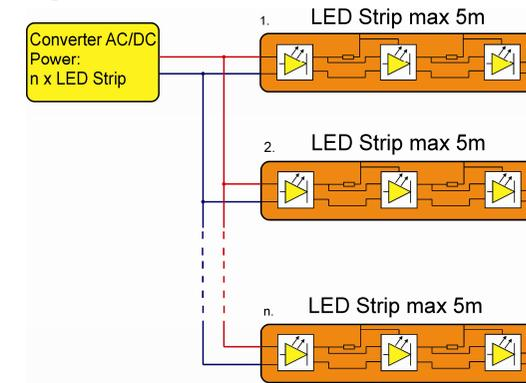
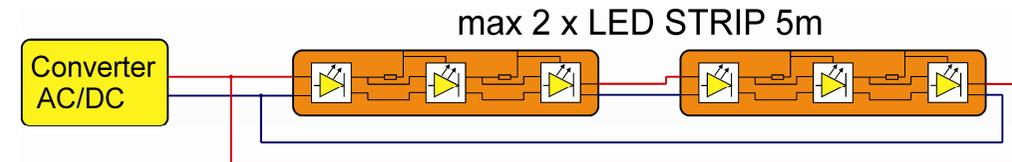

Figure No 1
Figure No 2
- 4) Combining sections of more than 5 m from a single SOURCE can be realized only in a parallel configuration (Figure No. 1), or according to Figure No. 2